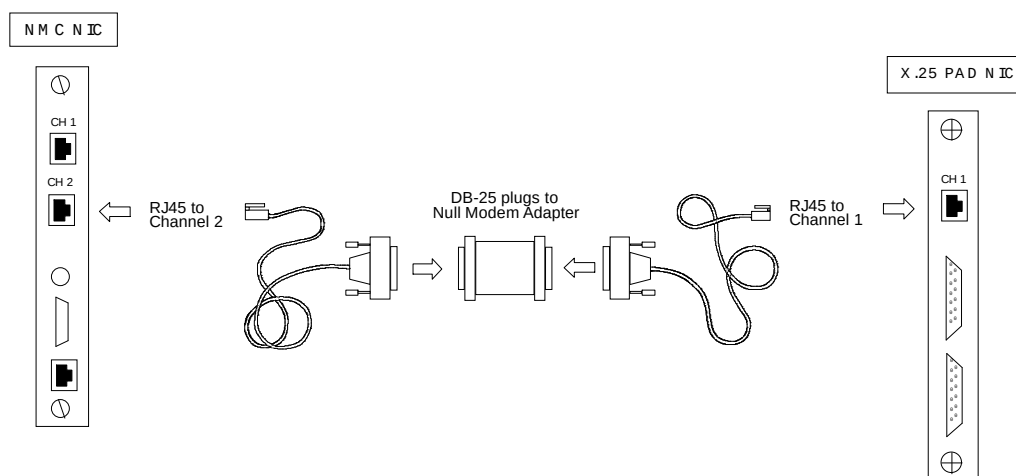

Figure 6—Remote (answering) PAD Mox Cabling
3. Using the console cables and null modem adapter provided by U.S. Robotics, cable the UI port (Channel 1) on the V.35/RS-232 NIC behind the X.25 card to the NMC NIC's WAN port (Channel 2) with a Null Modem cable. See Figures 6 and 7.